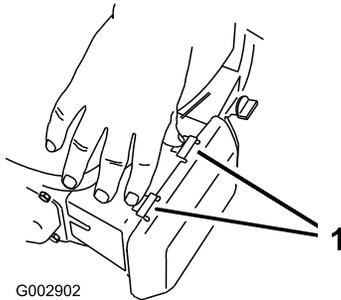

Figure 36
1. Press down on the latch tabs on top of the air-cleaner cover (Figure 36).